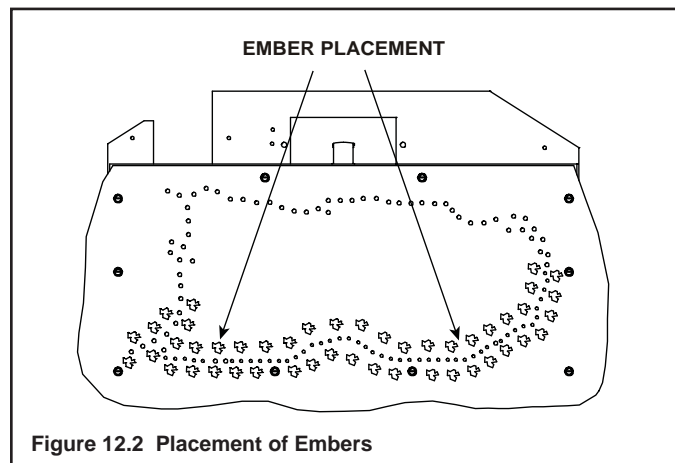

Figure 12.2 Placement of Embers
- When placing Glowing Embers® onto the burner care should be taken so that the ports are not covered. Place the dime-size ember pieces in front and behind of the port trail, but not on or in between the ports (see Figure 12.2). Failure to follow procedure will likely cause lighting and sooting problems.